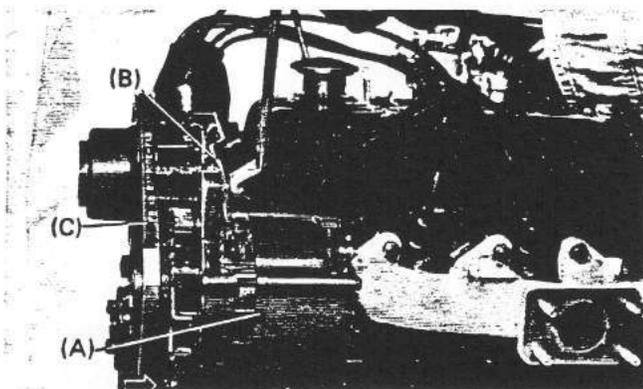

Fig. 16
- a. Remove the bolt as shown in Fig. 16, and remove the alternator strap (B) from the alternator (A).
- b. Remove the alternator mounting nut and bolt, and remove the alternator and V-belt (C) from the alternator bracket.